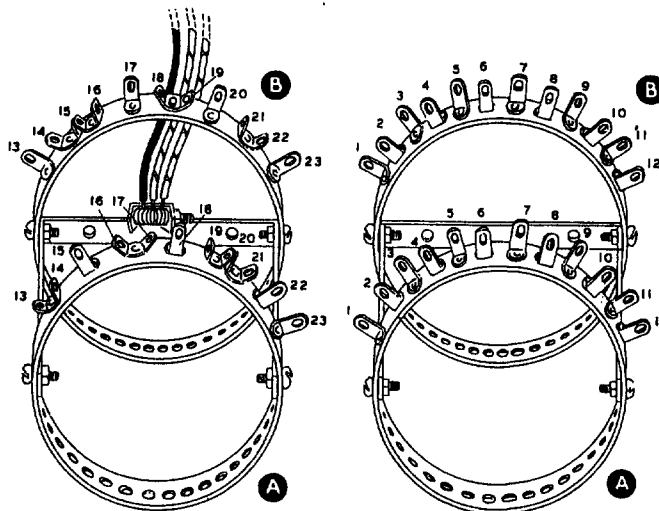

Figure 9
- () Study Figure 9 carefully and compare the rings with the figure to identify them. You will note that the A ring is black and the B ring is brown.
() Mount the rings to the ring bracket as shown in Figure 9, using 3-48 screws and nuts.
() Mount the meter rectifier to the ring bracket with a 3-48 screw and nut. Position as shown in Figure 9.
See Figures 9, 10, 11 and 13.